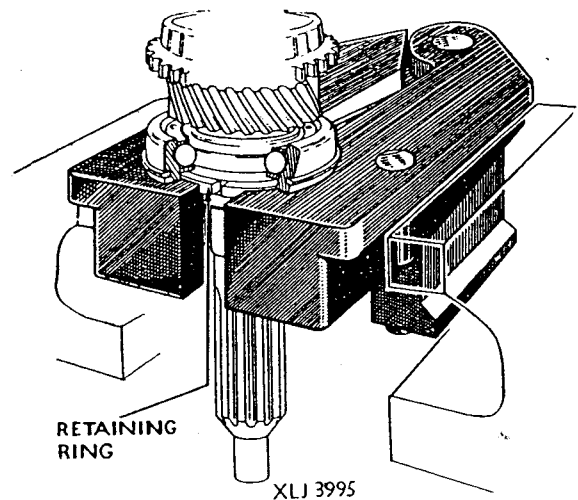

Fig. 6.
3. Disconnect the clutch rod from pedal and take lever from operating shaft by removing the pinch bolt from the top. (See Fig. 6, Section J). The operating shaft may now be tapped out of the clutch housing, leaving the withdrawal fork behind. Remove pedal return spring.
1. Fig. 6 shows the special vice jaws for closing the First Motion Shaft bearing retaining ring. This is not a spring ring and such a tool is essential to ensure that the ring is properly closed up in the groove.